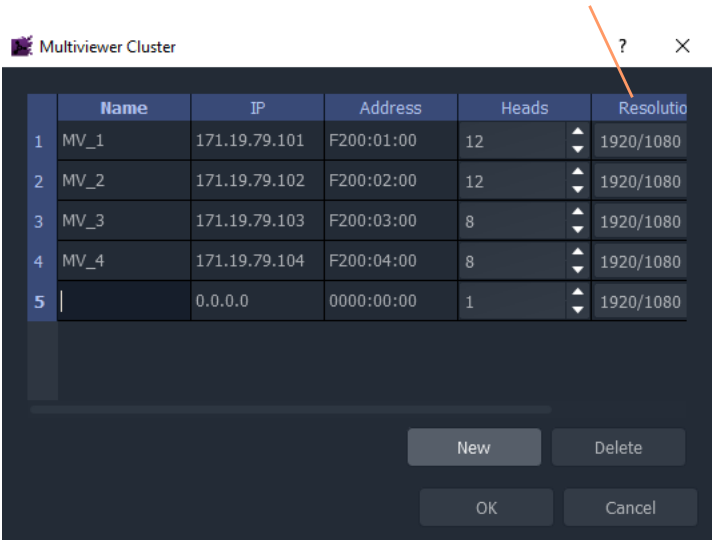

Fig. 13-23: Multiviewer Cluster Dialog- Adding New Multiviewer Device
- 1 Click **New** to add the information about each multiviewer of the cluster. See Figure 13-23.